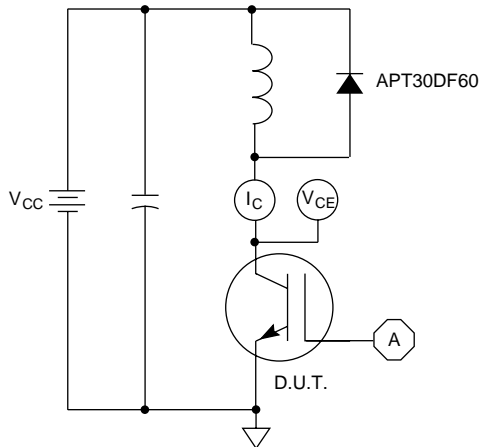

Figure 21, Inductive Switching Test Circuit
⑤ E_{on2} is the clamped inductive turn-on energy that includes a commutating diode reverse recovery current in the IGBT turn-on switching loss. A Combi device is used for the clamping diode as shown in the E_{on2} test circuit. (See Figures 21, 22.)
⑥ E_{off} is the clamped inductive turn-off energy measured in accordance with JEDEC standard JESD24-1. (See Figures 21, 23.)
⑦ Continuous current limited by package lead temperature.